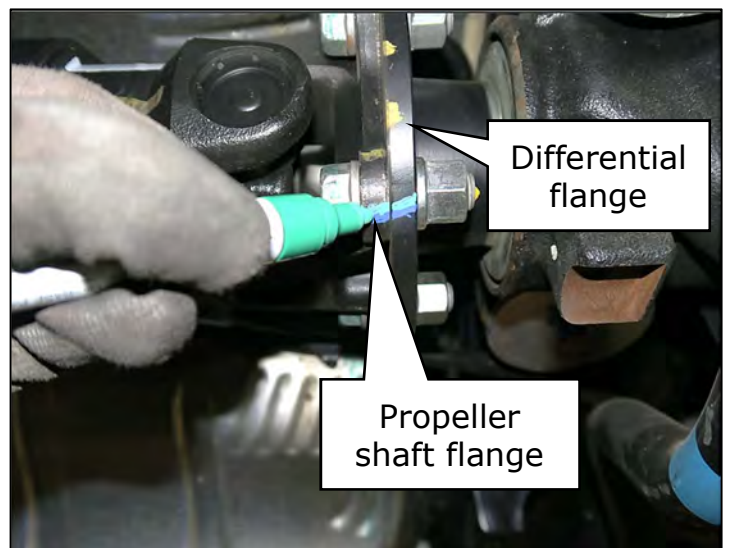

Figure 11
13. Using a paint marker, place an alignment mark on the rear differential flange and the propeller shaft flange to assist with alignment of the propeller shaft during reassembly. (Figure 11)